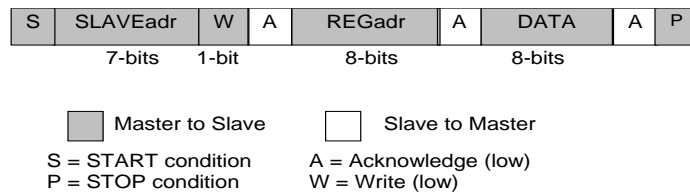
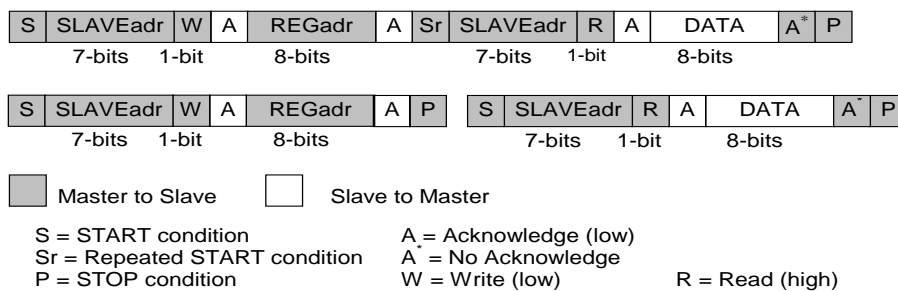

Figure 17: I²C Byte Write (SDA Line)
Figure 18: I²C Byte Read (SDA Line) Examples
The I²C bus is monitored for a valid slave address whenever the interface is enabled. It responds immediately when it receives its own slave address. The acknowledge is done by pulling the SDA line low during the following clock cycle (white blocks marked with A in Figure 17 and Figure 18).
The protocol for a register write from master to slave consists of a START condition, a slave address with read/write bit, and the eight-bit register address followed by eight bits of data, terminated by a STOP condition. DA9131 responds to all bytes with acknowledge (A), see Figure 17.
When the host reads data from a register it first has to write to DA9131 with the target register address and then read from DA9131 with a repeated START, or alternatively a second START, condition. After receiving the data, the host sends no acknowledge (A*) and terminates the transmission with a STOP condition, see Figure 18.